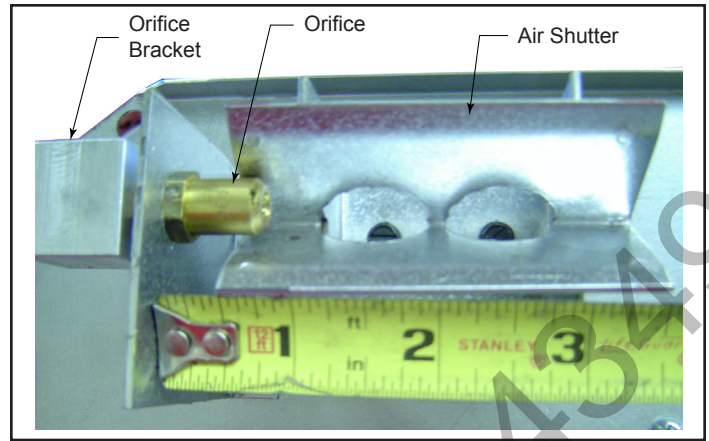

Figure 14 - The air shutter setting is 1/2" (13 mm) from the orifice bracket to the edge of the air shutter.
5. The air shutter is factory set according to Table 2, Page 6, and should not need adjustment. Air shutter opening may be verified by measuring as shown in Figure 14.